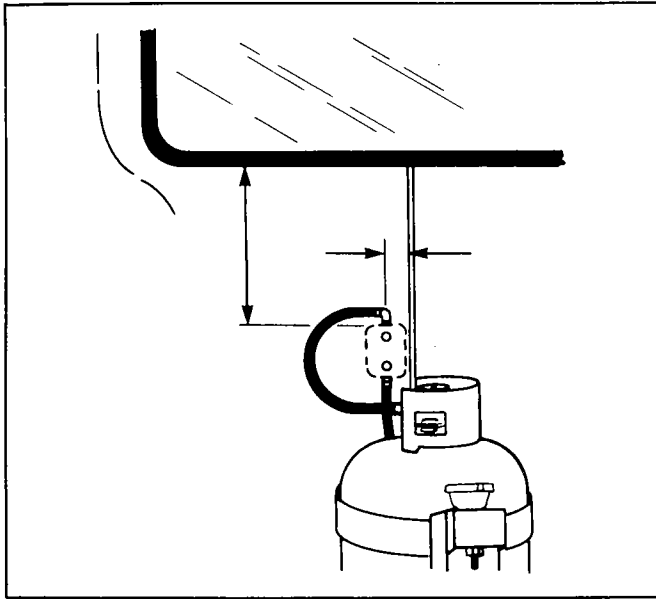

Figure 9. Measurements for LP Regulator Access Holes
34. To allow for future removal of LP regulator, lift up bunk bed and drill two 2-inch access holes through the front inner wall and plug with plastic caps. Determine location of holes by measuring outside from bottom edge of window-to-regulator and from center-seam-to-regulator (figure 9) and transferring these measurements to the inside of trailer.